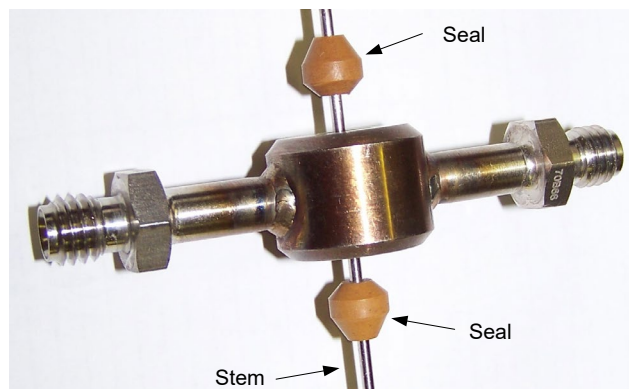

Figure 7.11. Installing the Stem Seals
17. Slide the first cleaned **seal** over the **stem** using the “A” end of Seal Insertion Tool TL-791A006B. The 30° angle (pointed end) of the **seal** must face the **Belleville springs**. Figure 7.11 shows the orientation of the seal.
19. Slide the second cleaned **seal** over the **stem** using the “B” end of Seal Insertion Tool TL-791A006B. The 30° angled (pointed end) of the **seal** faces out, away from the **sample chamber**. Figure 7.11 shows the orientation of the seal.